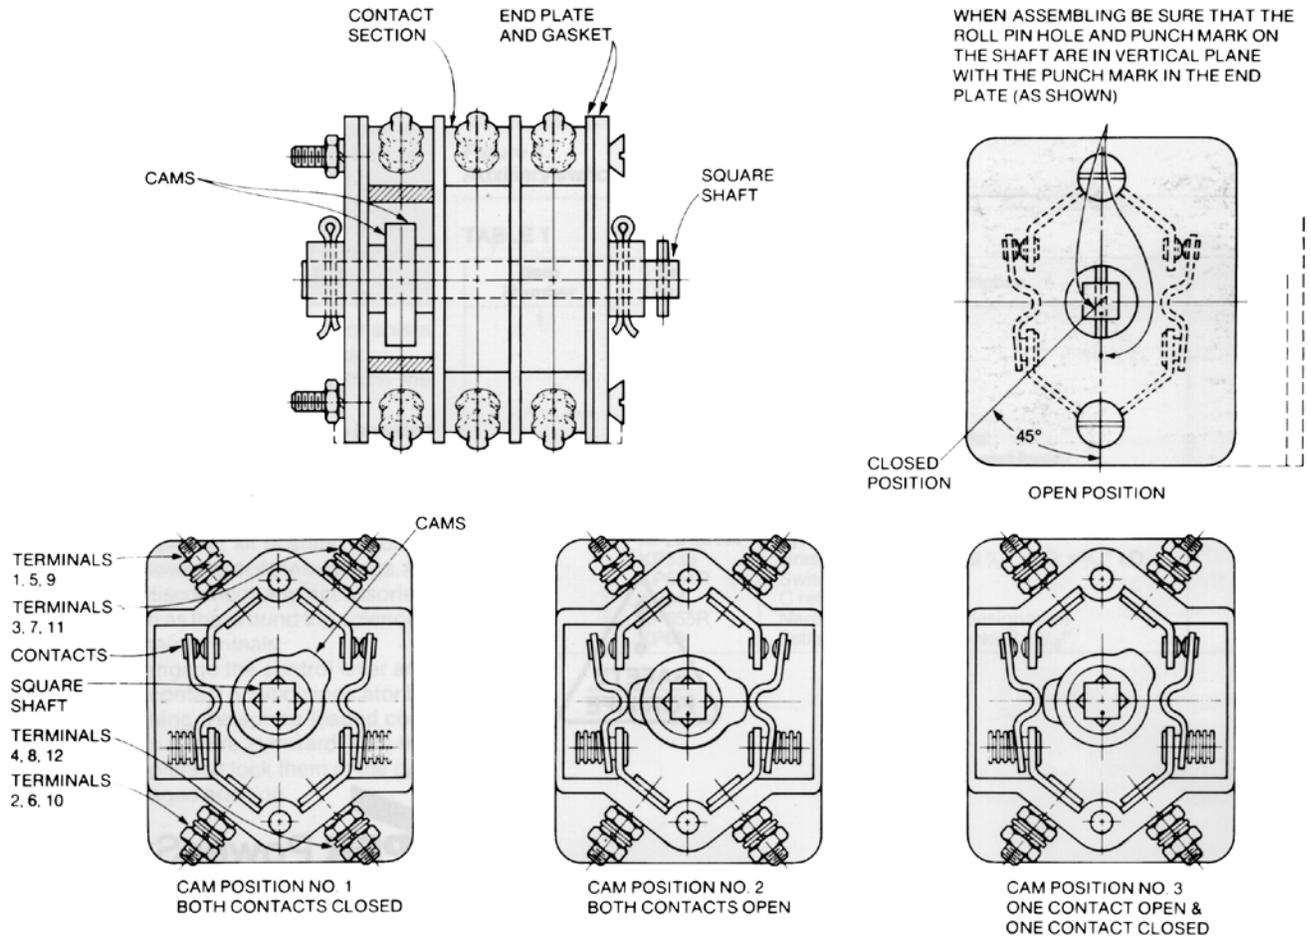

Figure 15. Auxiliary switch cam positions.
7. Replace the cams in one of the positions shown in Figure 15.